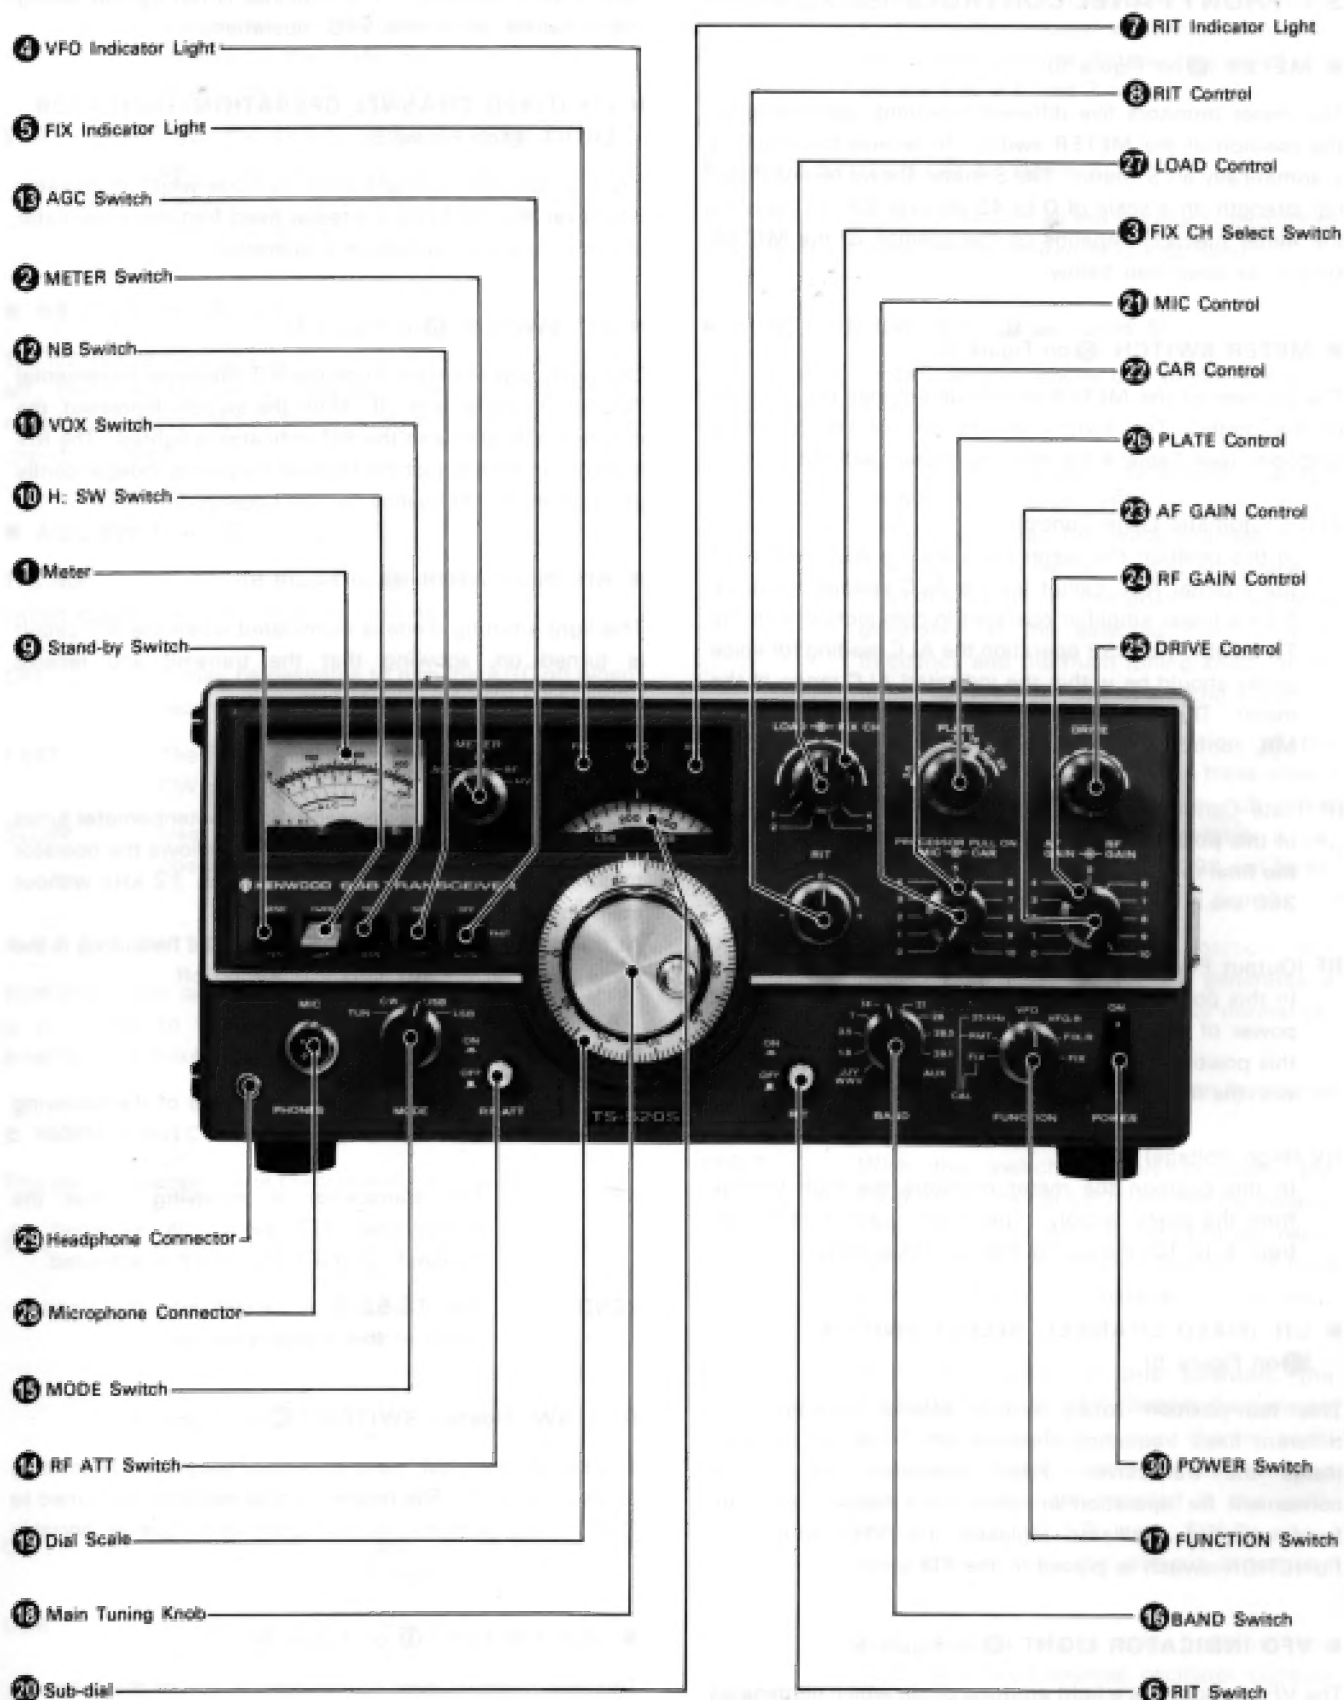

Fig. 5 Front Panel Controls
3.1 FRONT PANEL CONTROLS (See Figure 5)
■ METER (① on Figure 5)
■ METER SWITCH (② on Figure 5)
■ CH. (FIXED CHANNEL) SELECT SWITCH (③ on Figure 5)
■ VFO INDICATOR LIGHT (④ on Figure 5)
■ FIX (FIXED CHANNEL OPERATION) INDICATOR LIGHT (⑤ on Figure 5)
■ RIT SWITCH (⑥ on Figure 5)
■ RIT INDICATOR (⑦ on Figure 5)
■ RIT CONTROL (⑧ on Figure 5)
■ STAND-BY SWITCH (⑨ on Figure 5)
■ H. SW (Heater) SWITCH (⑩ on Figure 5)
■ VOX SWITCH (⑪ on Figure 5)
■ NB SWITCH (12 on Figure 5)
■ AGC SWITCH (15 on Figure 5)
■ RF ATT SWITCH (14 on Figure 5)
■ MODE SWITCH (16 on Figure 5)
■ BAND SWITCH (18 on Figure 5)
■ FUNCTION SWITCH (17 on Figure 5)
■ MAIN TUNING KNOB (18 on Figure 5)
■ DIAL SCALE (19 on Figure 5)
■ SUB-DIAL (20 on Figure 5)
■ MIC CONTROL (PROCESSOR PULL ON) (21 on Figure 5)
■ CAR CONTROL (22 on Figure 5)
■ AF GAIN CONTROL (23 on Figure 5)
■ RF GAIN CONTROL (24 on Figure 5)
■ DRIVE CONTROL (25 on Figure 5)
■ PLATE CONTROL (26 on Figure 5)
■ LOAD CONTROL (27 on Figure 5)
■ MIC CONNECTOR (28 on Figure 5)
■ PHONES JACK (29 on Figure 5)